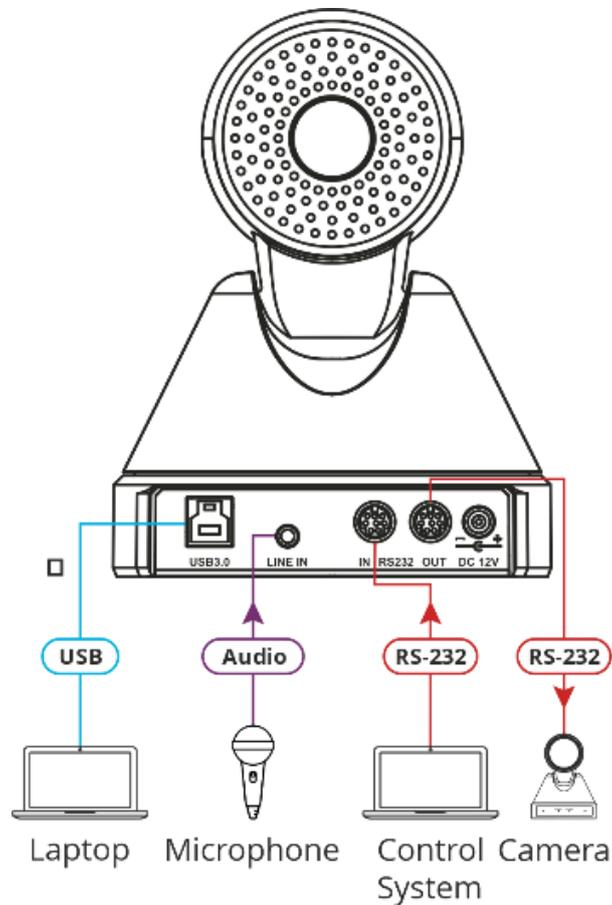

Figure 2: Connecting to the K-CamHD Rear Panel
**To connect K-CamHD as illustrated in the example in Figure 2:**
1. Connect the USB 3.0 port (5) to a laptop.
2. Connect a microphone to the LINE IN 3.5 Mini Jack (6).
3. Connect the RS232 OUT 8-pin DIN Connector (8) to an additional Camera.
4. Connect a control system to the RS232 IN 8-pin DIN Connector (7).
5. Connect the power adapter to **K-CamHD** and to the mains electricity (not shown in Figure 2).